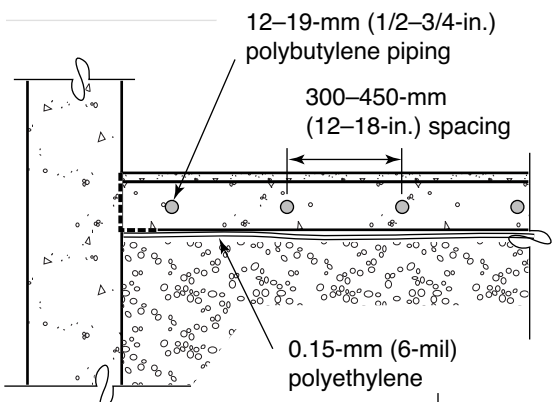

FIGURE 42
- ◆ Provide radiant heating of the slab. This will improve comfort, but the higher rates of heat loss to the surrounding soils will increase heating costs. Typically in radiant heating, hot water is circulated in 12- to 19-mm (1/2- to 3/4-in.) polybutylene piping, spaced at 300 to 450 mm (12 to 18 in.) under (or embedded in) the slab (see Figure 42).